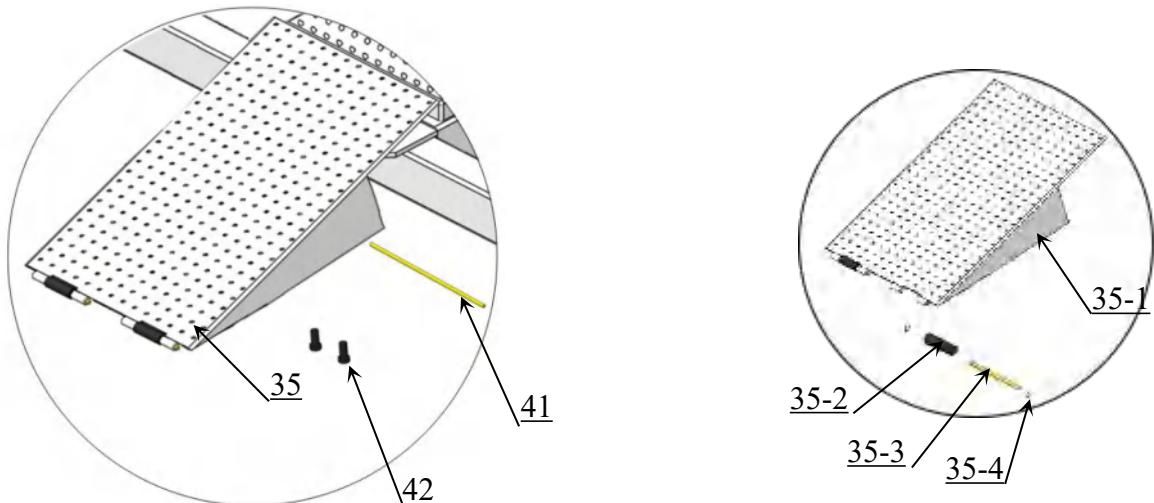
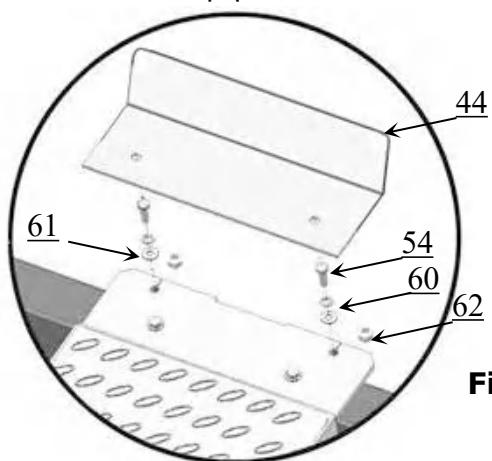

Fig. 43
Fig. 44
P. Install Drive-in ramp, Tire stop plate. (See Fig. 43, Fig. 44)